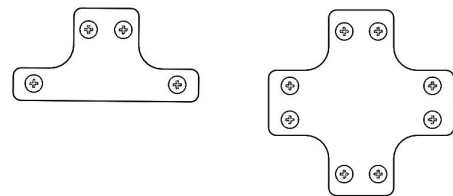

FIGURE 2.42 - Trim Plates
**NOTE: Alternative Installation - Use trim plate (#22) for cage bank assemblies where the cage joints don't align with the bottom cage joints. See FIGURE 2.42**
**- Use trim plate (#44) for cage bank assemblies where the cage joints align with the bottom joints. See FIGURE 2.42**